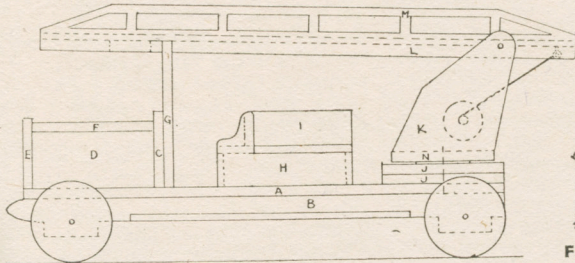
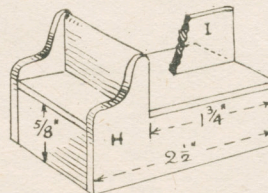

Fig. 1—Side view with lettered parts
Fig. 5—Seating arrangement
The side view, Fig. 1, helps to show the position of the main parts of the toy. The floor (A) will be the first piece to mark out and cut with the fretsaw. This measures 9in. by $2\frac{1}{2}$ in. and is $\frac{3}{16}$ in. thick. Then to the side edges of this piece, the two parts (B) are glued and pinned.
The seats for the firemen can again be completed from the diagram, Fig. 5, wood $\frac{1}{8}$ in. thick being used here for all the parts. Note how the side edges of the top seat will be cut back to allow the sides (H) to fit under; this can be seen in Fig. 1. The width of the seat end (H) is
1 $\frac{1}{2}$ in., while its length is 2 $\frac{1}{2}$ in., as seen in Fig. 5.